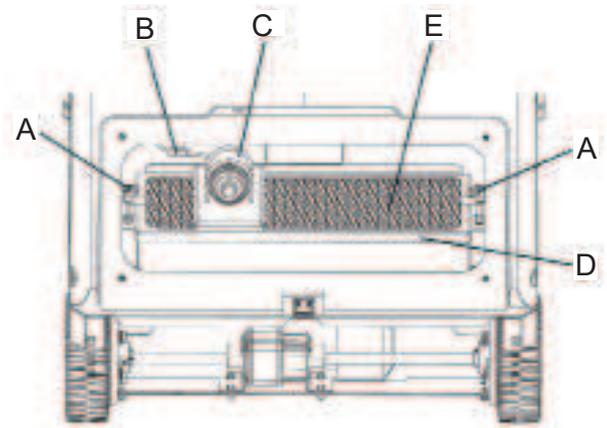
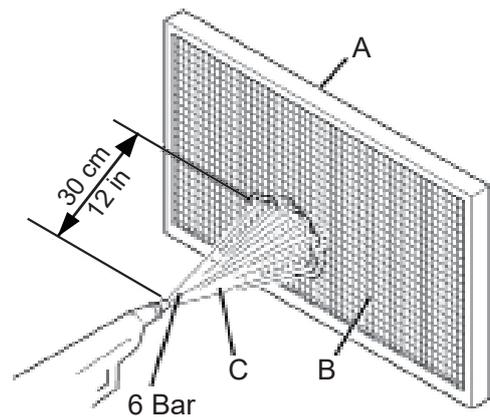

Figure9
Figure10
- 1) Drive the machine on a level floor and release the pedal (2) and stop the machine.
- 3) Disengage the hook (29) by pulling its lower end.
- 4) Remove the hopper (28) by using the handle (30) and by using hand and by disengaging it from the inner guides.
- 5) Unscrew the knobs (37) and remove the filter compartment cover (36).
- 6) Loosen the knobs (A, Fig.9).
- 7) Disconnect the connector (B, Fig.9) from the filter shaker motor (C).
- 8) Remove the dust filter fastening frame (D, Fig.9).
- 9) Remove the dust filter (E, Fig. 9).
- 10) In an outdoor area, clean the filter by shaking it on a level and clean surface, tapping the side (A, Fig. 10) opposite to the wire gauze (B).
Complete the cleaning procedure by using compressed air (C, Fig. 10) at maximum 6 Bar, blowing only from the side of the wire gauze (B), at a minimum distance of 11.8 in (30 cm).
13) Clean the rubber gasket (A, Fig.10) of the cover (36) and check it for integrity and efficiency; if necessary replace it.
- Install the filter (E, Fig. 9) with the wire gauze (B, Fig. 10) facing upwards.